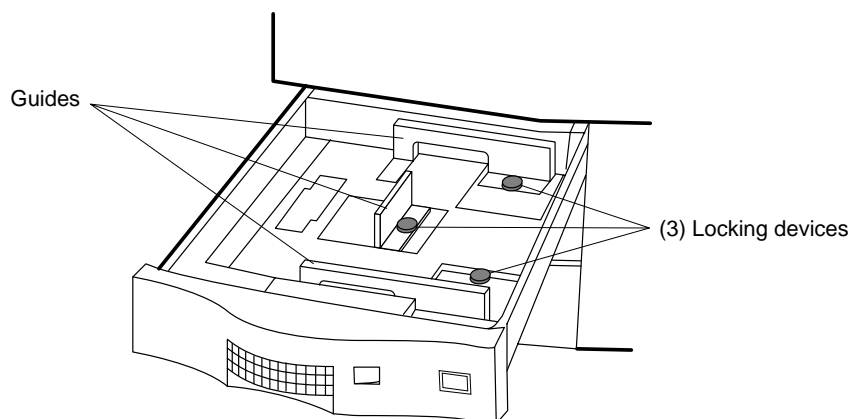

Figure 2-61 Paper Guides
1. Each paper guide has a blue locking device, as shown in Figure 2-61.